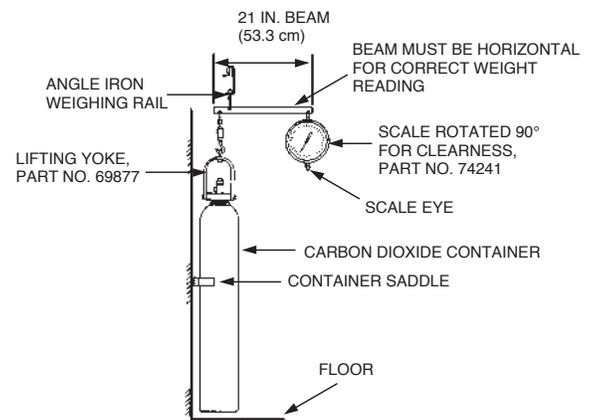

FIGURE 10-1
- b. Attach the weigh scale, Part No. 74241, to the weigh rail above the container. Thread lifting yoke, Part No. 69877, on container collar threads and lift container from floor. Record weight while container is suspended. See Figure 10-1.